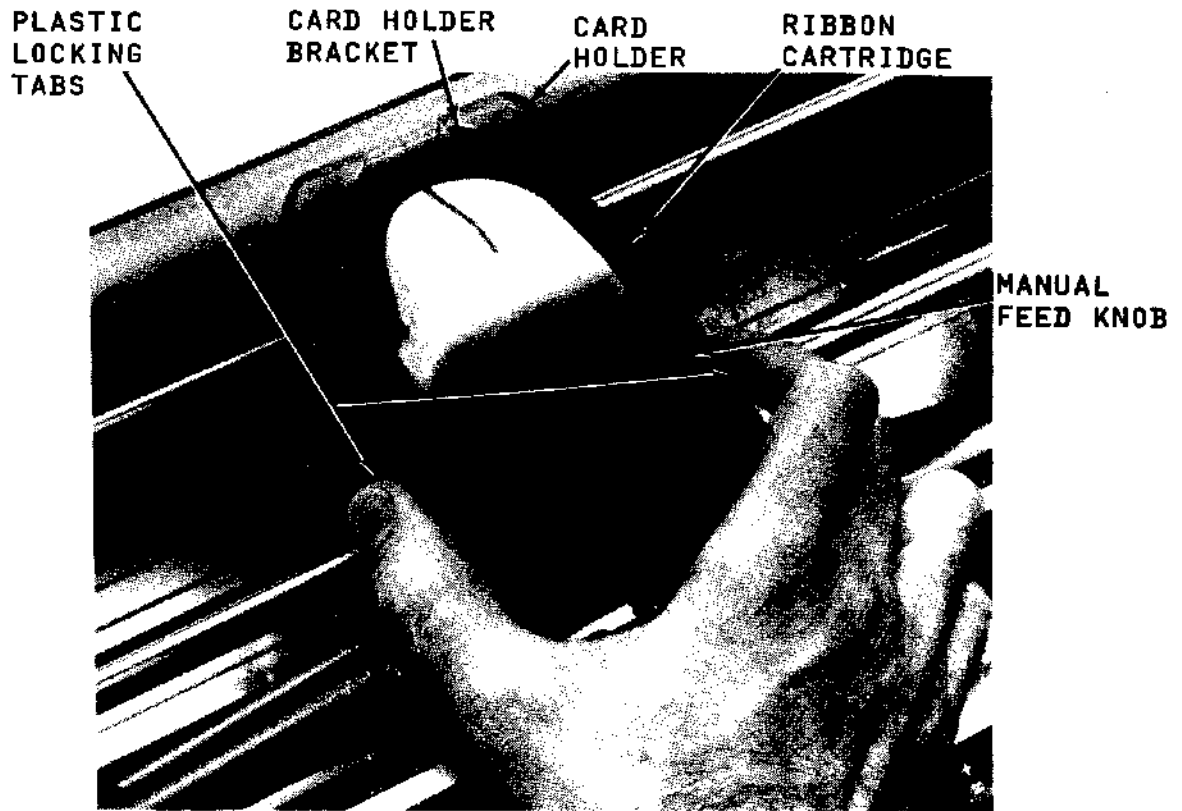

Figure 3-1 Ribbon Cartridge Removal
- b. Hold the ribbon cartridge lightly; at the same time, push down on the two locking tabs which hold the cartridge in place, lift the cartridge out (see Figure 3-1).